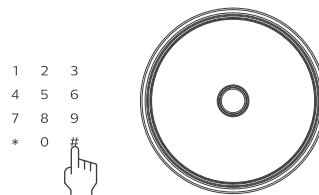

Figure 1
2. As shown in Figure 1, enter any fingerprint or simply touch the panel to wake up the keypad. Enter default PIN code "1234" and press "#" to confirm. After hearing a voice prompt 'Unlocking successful', open battery compartment inside the safe and insert in 4 AA batteries to complete the first use.